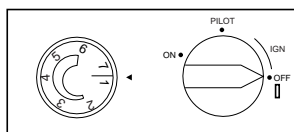

Figure 21- Dual Control for Thermostat Models FBS-3C and FBS-5C
- Push in control knob slightly and turn clockwise to the OFF position. Be sure that the temperature setting knob is set at the line between level 1 and level 7 (see Figure 21).
- Push in and turn control knob counterclockwise to PILOT position. Press in control knob for five (5) seconds.
- Press in control knob and turn counterclockwise past IGN to PILOT (see Figure 21). This will cause the piezo ignitor to spark and light the pilot gas. Keep control knob depressed for 10 seconds before releasing. If needed, repeat steps 5 through 7 until pilot lights.